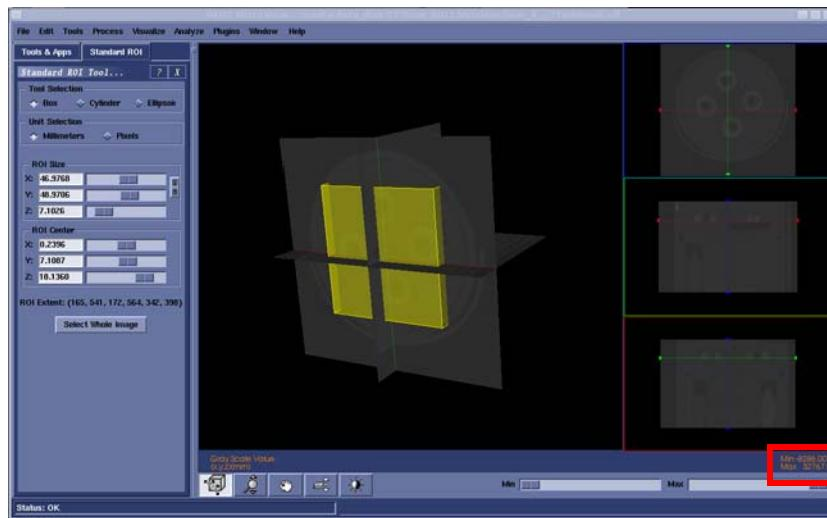

Figure 7-112
- 2.) Zoom into the finest coil using Shift+right mouse button. It should be easily resolved by simply changing the window level. This is done by double clicking on the W and L area in the bottom right hand corner of the MicroView screen (highlighted on Figure 7-112), choosing Window Level radio button from the dialog box and using the W and L sliders to change contrast.